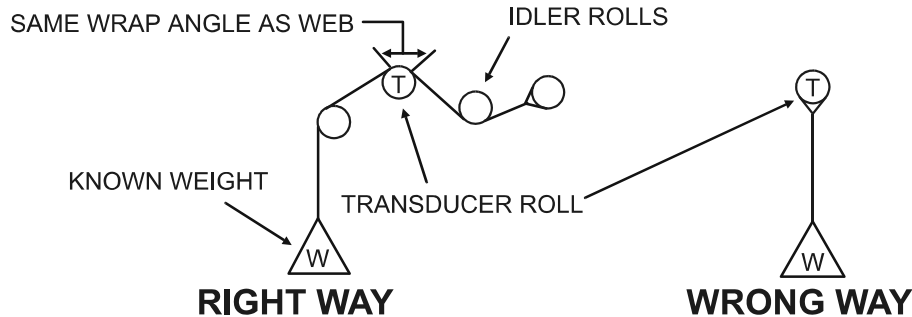

Figure 5 - WEB PATH
2. **CALIBRATION:** Fasten one end of the rope in the machine and thread the other end around the transducer roll in exactly the same path the web will take. Be sure the rope does not pass around any driven rolls, drag bars, or anything else that can affect tension. Ideally the rope should hit an idler roll immediately before and after the tension sensing roll. It does not have to pass over any other rollers once these three are strung. Refer to Figure 5.
1. Attach the weight to the free end of the rope as shown in Figure 5. The weight should not touch anything. Wait for the weight to stop swinging. Ideally, the rope will pass over the center of the transducer roll.